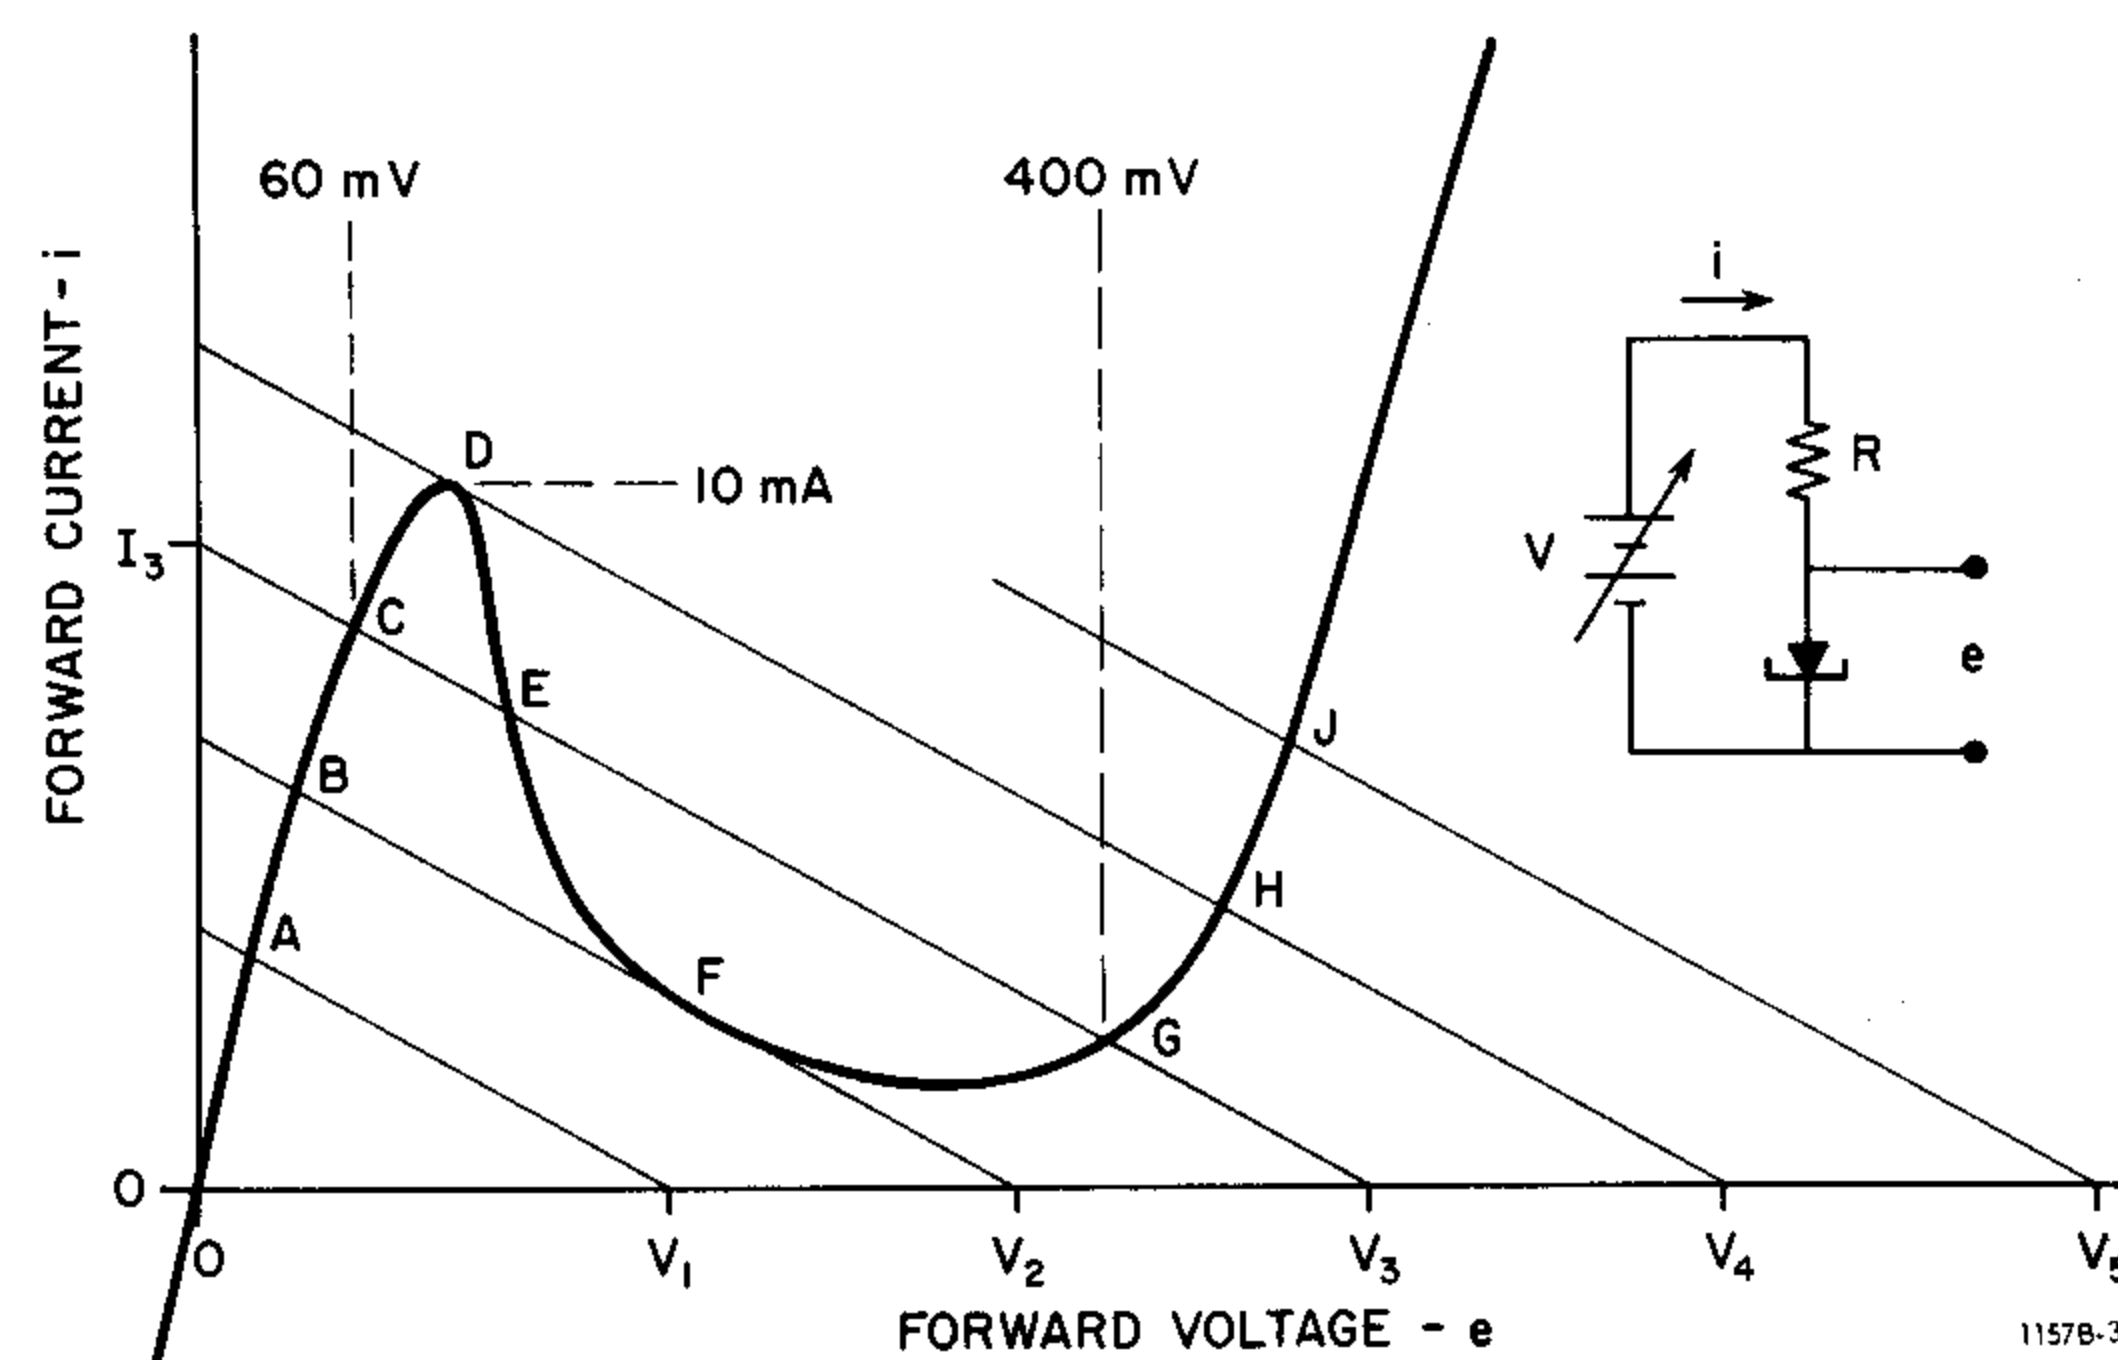

Figure 4-2. Tunnel-diode characteristics.
4.3.3 Trigger — C (Figures 4-2, 6-7).
The trigger generator processes the incoming signal to supply a negative pulse to the binary divider. These circuits incorporate tunnel diodes, whose general characteristics are shown in Figure 4-2.
Tunnel diode C-CR1 is driven far enough to change state and reverse every cycle of the input signal. (There must not be enough noise or harmonic distortion to cause extraneous reversals.) With series resistor C-R1 to absorb the voltage peaks, the signal at C-Q1 base is therefore nearly square. The rise D-H (Figure 4-2) is particularly sharp; the fall is rounded at H-F before the sharp drop F-B.
The negative pulse applied to this bridge drops whichever diode was high into the low-voltage state. Then both tunnel diodes cycle momentarily below point B (Figure 4-2). After the pulse, whichever diode was low is the first to reach point D and switches to the high-voltage state, “taking turns.” Memory is provided by inductor C-L1. (Continuing the above supposition, enough inductor current is still flowing during and shortly after the pulse to give C-CR4 more current than C-CR3.)